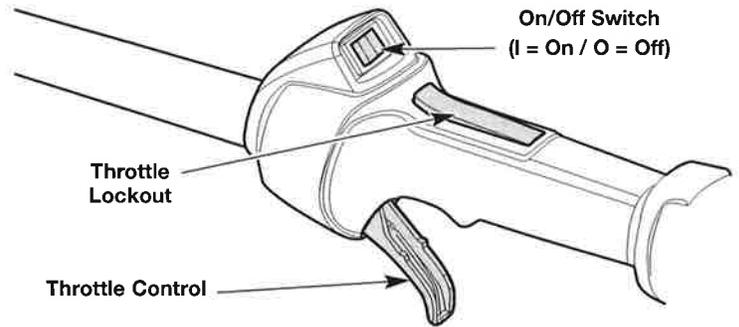

Fig. 9
**NOTE:** There is no need to turn the unit on. The On/Off switch is in the **On (I)** position at all times (Fig. 9).
**NOTE:** **DO NOT** squeeze the throttle control until step 8 (Fig. 9).
9. Press and hold the throttle lockout (Fig. 9). Squeeze the throttle control as needed for operation (Fig. 9).
2. Press and hold the On/Off switch in the **Off (O)** position until the engine comes to a complete stop (Fig. 9).
**NOTE:** There is no need to turn the unit on. The On/Off switch is in the ON (I) position at all times (Fig. 9).
**NOTE: DO NOT** squeeze the throttle control until step 10 (Fig. 9).
11. Press and hold the throttle lockout (Fig. 9). Squeeze the throttle control as needed for operation (Fig. 9).